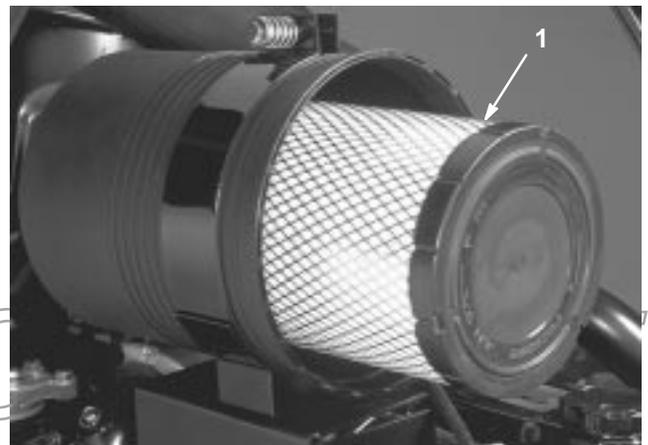

Figure 45
2. Gently slide filter out of air cleaner body to reduce the amount of dust dislodged (Fig. 45). Avoid knocking filter against air cleaner body.